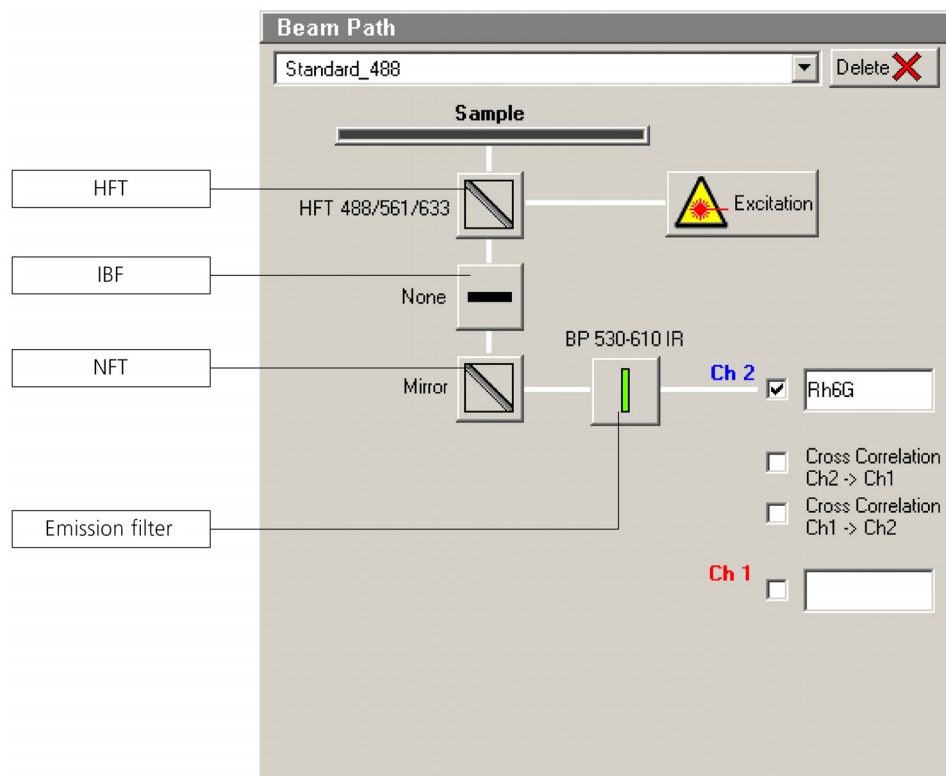

Fig. 4-30 ConfoCor - Beam Path panel
Activation / deactivation of a main dichroic beam splitter (HFT) through selection from the relevant list box (see Fig. 4-30). The HFT reflects the specified laser lines and allows the resulting fluorescence spectrum to pass through. Note that the HFT is from the LSM module.
Activation / deactivation of secondary dichroic beam splitter (NFT) through selection from the relevant list box (see Fig. 4-30). The NFT splits the fluorescence spectrum onto the various detection channels.
Activation / deactivation of an infrared blocking filter (IBF) through selection from the relevant list box (see Fig. 4-30). The IBF is used to block any IR excitation light in NLO applications.
Activation / deactivation of an emission filter (EF) or infrared blocking filter (IBF) through selection from the relevant list box (Fig. 4-30). The EF is used to narrow the fluorescence spectrum. The bandpass (BP) allows the range within the specified border wavelengths to pass through. The longpass (LP) allows the range above the specified border wavelength to pass through. TH short pass (KP) allows the range below the specified border wavelength to pass through.